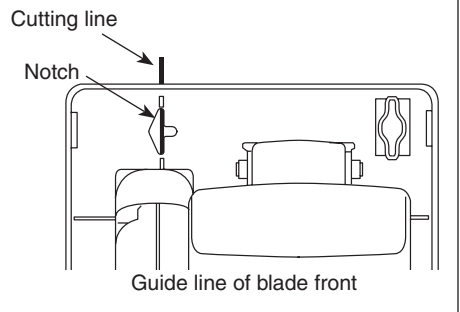

Fig.3
- 1.Line up the sight line on shoe with your cutting line. (See Fig.3)